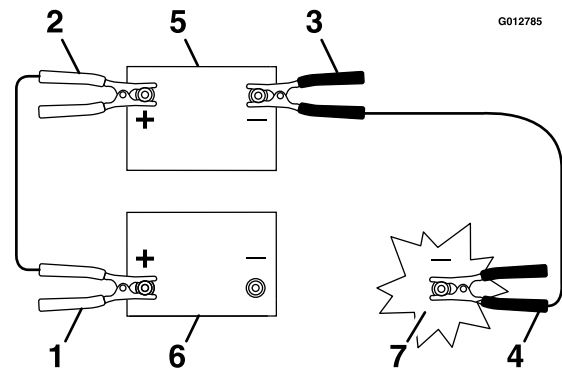

Figure 83
3. Connect the positive (+) cable clamp (red) to the positive (+) terminal of the discharged battery (Figure 83).